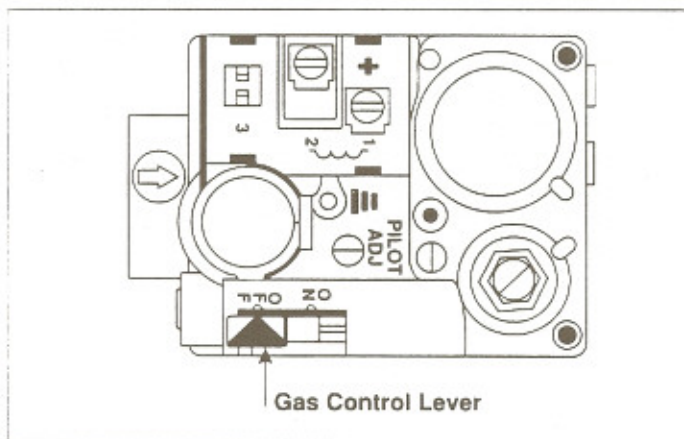

Figure 32. Direct Ignition Gas Valve
- e. Push in the gas control lever slightly and push left to "OFF." NOTE: The lever cannot be placed in the "OFF" position unless it is pushed in slightly. DO NOT FORCE (Figure 32).
- f. Wait ten (10) minutes to clear out any gas. If you smell gas, STOP! and follow step "d" in the SAFETY INFORMATION section. If you don't smell gas, go to the next step.